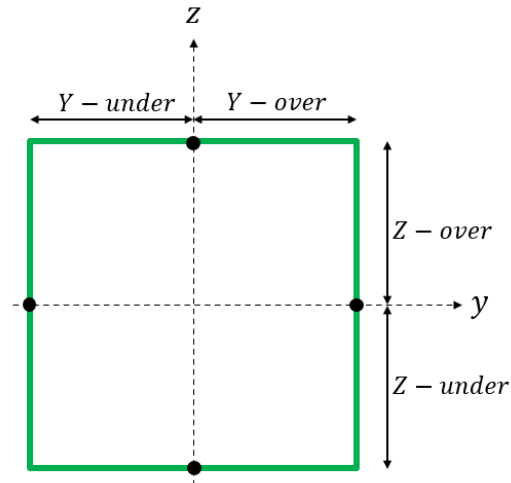

Figure 24 Simplified 2D cross section illustrating the four calculation points
Consider a simplified 2D cross section with four points (black dots), as illustrated in Figure 24. AquaSim calculates the von Mises stress based on some simplifying assumptions:
- $Z - over$ is distance to neutral axis (as defined in Figure 24) [m],
- $Y - over$ is distance to neutral axis (as defined in Figure 24) [m],